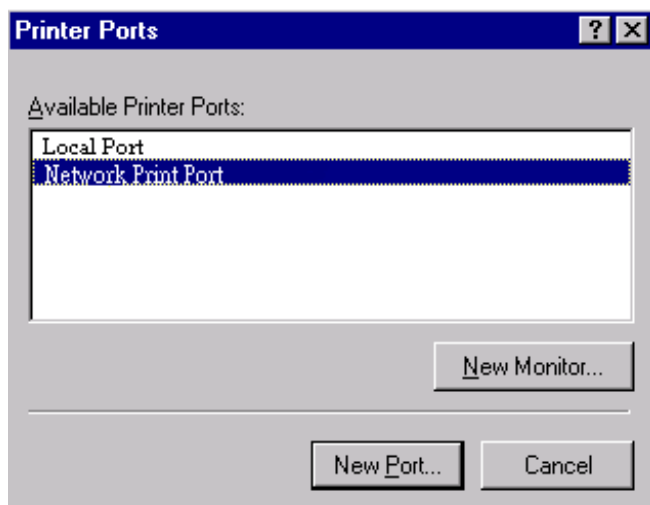

Figure 5-3
10. From the Printer Ports box as shown in Figure 5-3, select the **Network Print Port** and click **New Port**.